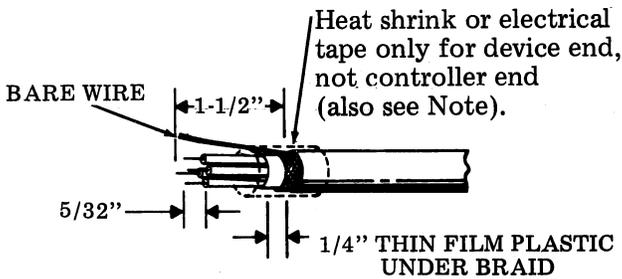

Fig. 29
- ⑤ Using cutting pliers or equivalent, strip the four insulated wires 5/32 inch from the end (measure with ruler). An acceptable equivalent is an adjustable stripper with cutter. See Fig. 29.